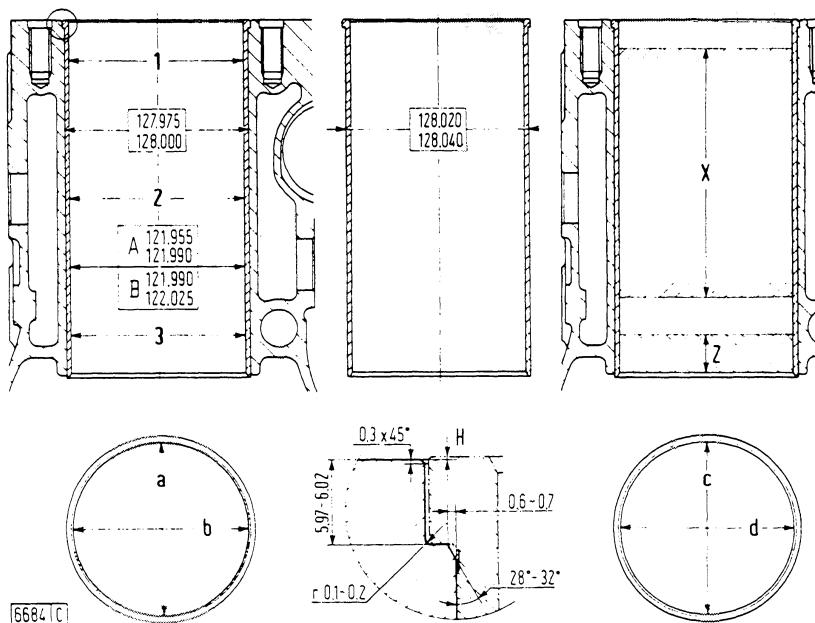

Fig. 3 - Cylinder sleeve and seat standard dimensions and wear data.
The pre-finished cylinder sleeves are heat treated before being pressed into the block. After installation, sleeves are classified into grades **A** and **B** (Figure 3) and require no further machining.
- Check sleeve I.D. over the working length (**X**, fig. 3) swept by the piston rings.
- After installation, check sleeve I.D. by means of a suitable dial gauge. Zero the gauge and take readings in planes **a** and **b** (fig. 3) at points **1**, **2** and **3**.
- Where necessary, stamp the grade identification letters to which pistons must be matched (see para. 4.3) on the cylinder block (see fig. 3).
If in the course of overhaul block bore out-of-round is found to be in excess of 0.1 mm or 0.004 in, the bores should be opened out by 0.25 mm or 0.010 in (see data table, section 11). After opening out the block, recut the lead-in chamfer to conform with the dimensions given in fig. 3.
If the block top needs grinding (which should be done with the sleeves removed), also machine sleeve counterbore and lead-in chamfer to the dimensions shown in insert, fig. 3. Dimensions (**H**) will thus be maintained within tolerances when sleeves are installed.